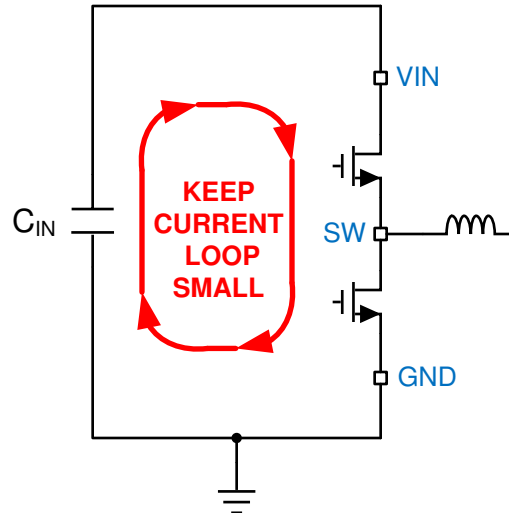
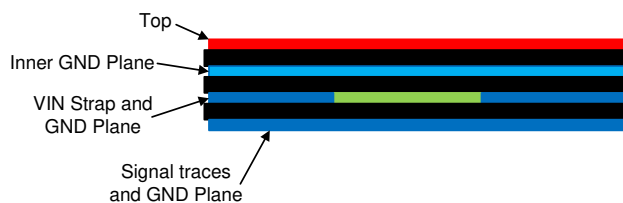

Figure 10-1. Current Loops with Fast Edges
Figure 10-3. Example Layout for VQFN Package
The PCB layout of any DC/DC converter is critical to the optimal performance of the design. Bad PCB layout can disrupt the operation of an otherwise good schematic design. Even if the converter regulates correctly, bad PCB layout can mean the difference between a robust design and one that cannot be mass produced. Furthermore, the EMI performance of the regulator is dependent on the PCB layout, to a great extent. In a buck converter, the most critical PCB feature is the loop formed by the input capacitor or input capacitors, and power ground, as shown in Figure 10-1. This loop carries large transient currents that can cause large transient voltages when reacting with the trace inductance. These unwanted transient voltages will disrupt the proper operation of the converter. Because of this, the traces in this loop must be wide and short, and the loop area as small as possible to reduce the parasitic inductance. Figure 10-2 and Figure 10-3 show recommended layouts for the critical components of the LMR33630.
1. **Place the input capacitor or capacitors as close as possible to the VIN and GND terminals.** VIN and GND pins are adjacent, simplifying the input capacitor placement. With the VQFN package there are two VIN/PGND pairs on either side of the package. This provides for a symmetrical layout and helps minimize switching noise and EMI generation. A wide VIN plane must be used on a lower layer to connect both of the VIN pairs together to the input supply; see Figure 10-3.